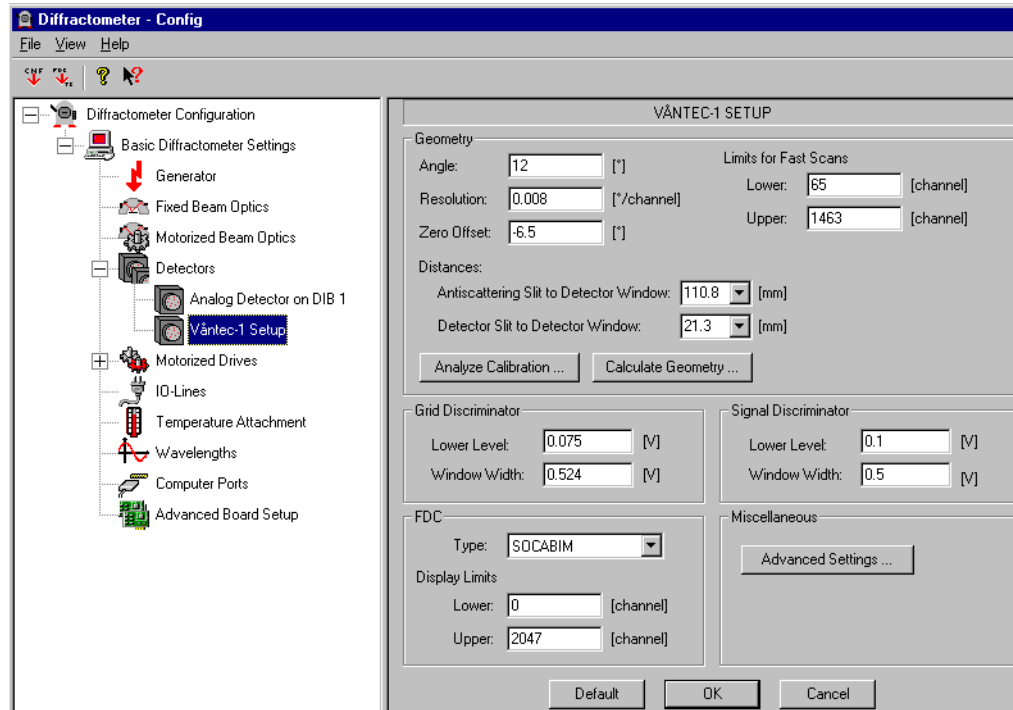

Figure 7.3 - Analyze the calibration
1. After creating Calib.raw, select **Analyze Calibration** in the Configuration program under the VANTEC-1 Setup menu (see Figure 7.3).